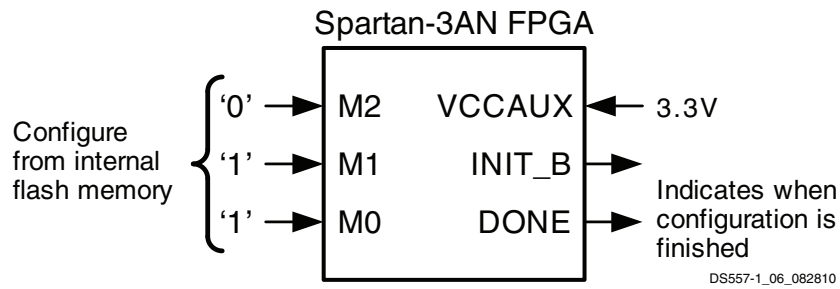

Figure 2: Spartan-3AN FPGA Configuration Interface from Internal SPI Flash Memory
- Configure from internal SPI Flash memory (Figure 2)